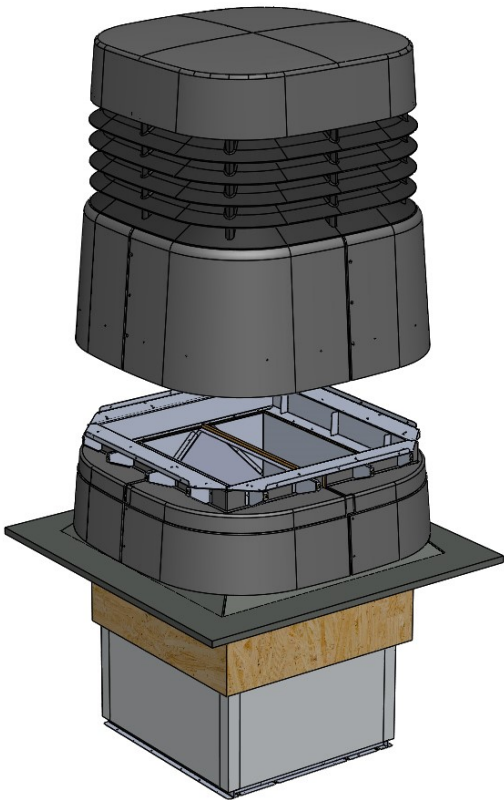

Figure 29 – Cowl position.
2. Lower the cowl terminal in to place – *see figure 29.*